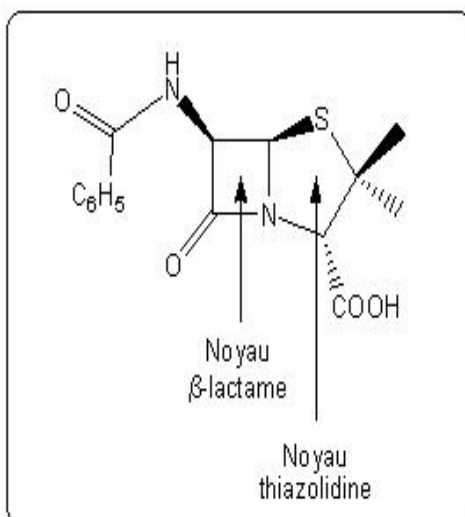

Figure 10 : Structure of benzylpenicillin or "penicillin G".
- Penicillin is characterized by a cycle of 4 fused β -lactam atoms with a five-atom heterocycle (thiazolidine) (figure 10).